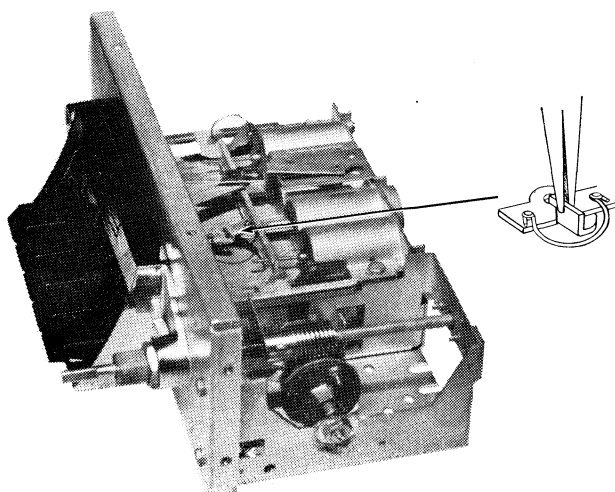

FIG. 5
3. The pointer should now be adjusted by bending the pointer adjustment ear in the proper direction to make the pointer coincide with the signal frequency. (See Fig. 5).